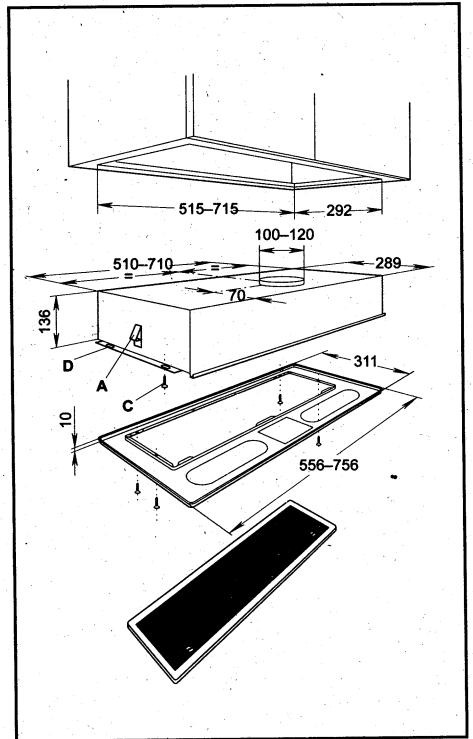

Fig. 5
- In the exhaust version, the outlet duct for the fumes must be 120 mm in diameter (\varnothing 100 mm for hood with one motor) correspond with the measurements shown in Fig. 5, and it must be made of autoextinguish material.
- d)** Finally, secure extractor using the four fixing screws **C** into the base board of the canopy (Fig. 5)